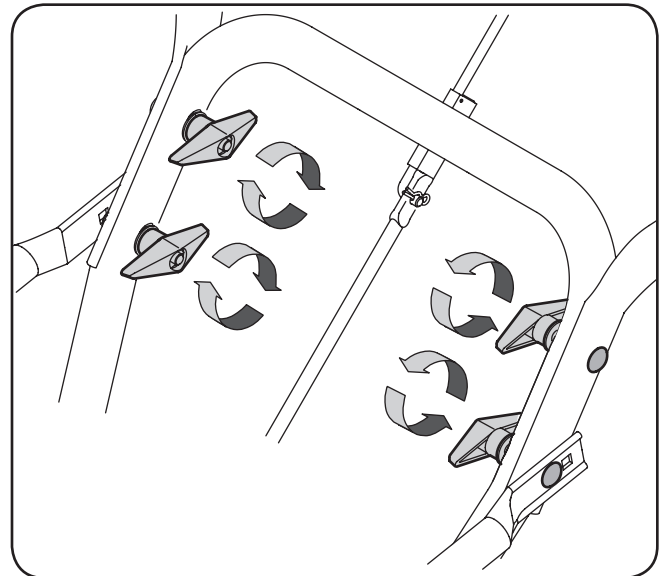

Figure 3-2
4. Secure the upper handle and lower handle with the two wing nuts and carriage bolts removed earlier. Tighten the two wing nuts already installed in the upper holes to firmly secure the upper handle and support tubes. See Fig. 3-2.